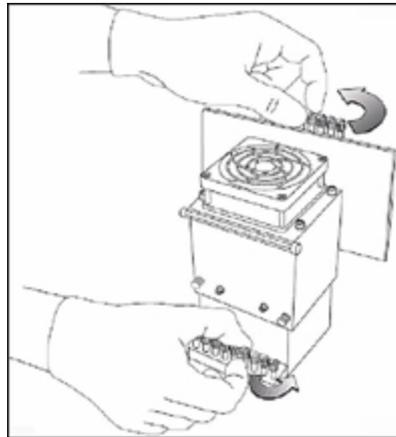

Figure 6-70 Releasing the locking screws
18. Tighten the upper and lower screws that secure the print head in the print block (see Figure 6-70 on page 6-52).